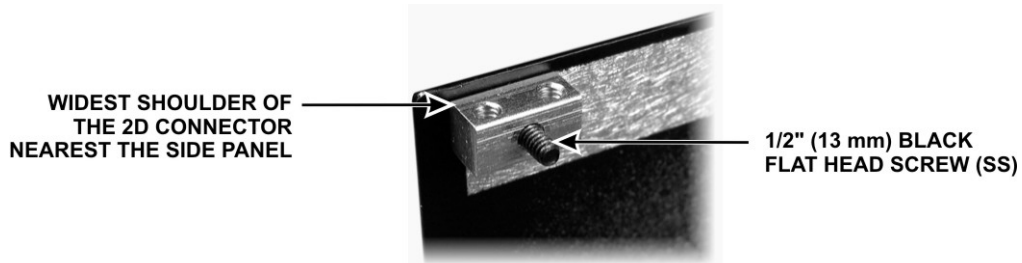

Figure 22. Mounting 2D fastener for KANT3 or KAT3 Standoff.
☐ At the upper rear corner of the side panel you just identified in the previous step, mount a 2D fastener as shown in Figure 22, using a black 4-40 1/2" (13 mm) flat head screw (SS). Remember that flat head screws are measured from the flat top to the end of the threads. Note that the screw extends some distance through the 2D fastener.